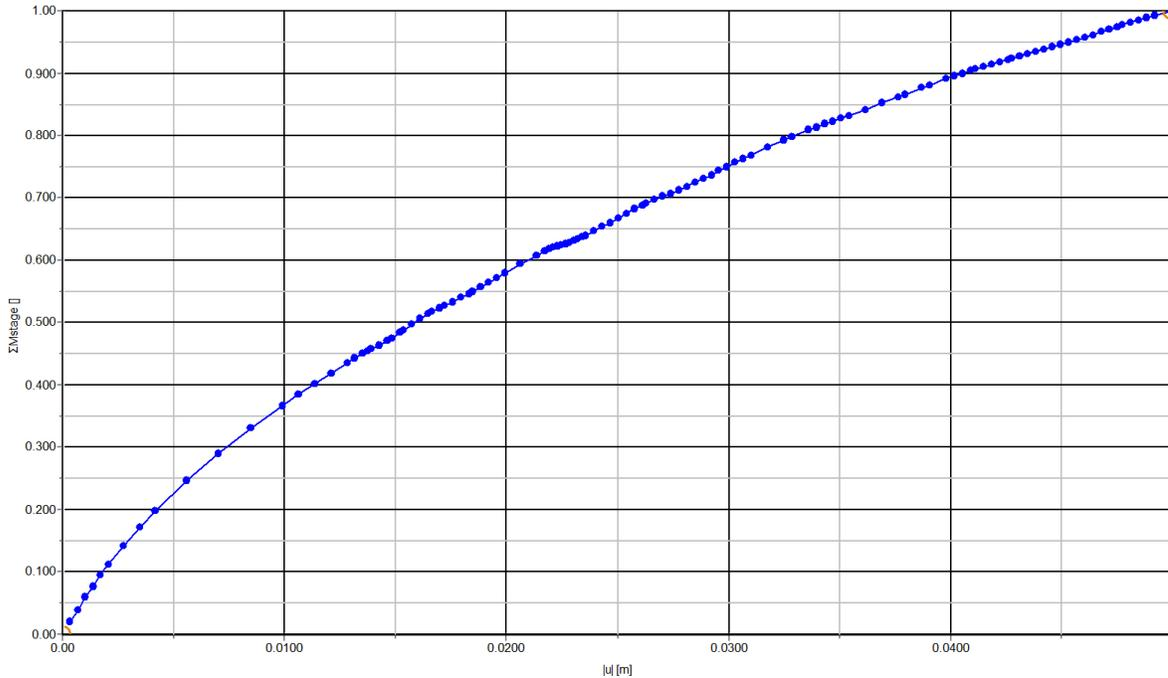

Figure 27: Load-displacement curve for the footing
5. Click **OK** to accept the input and generate the load-displacement curve. As a result the curve of is plotted as shown in Figure 27 (on page 38):